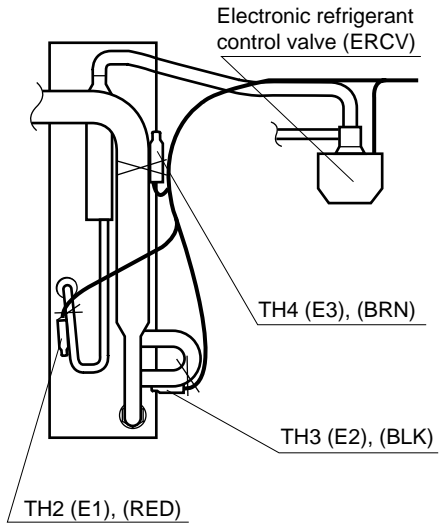

**Fig. 47**
- Then check the continuity of the fuse by using the multimeter. **(Fig.47)**